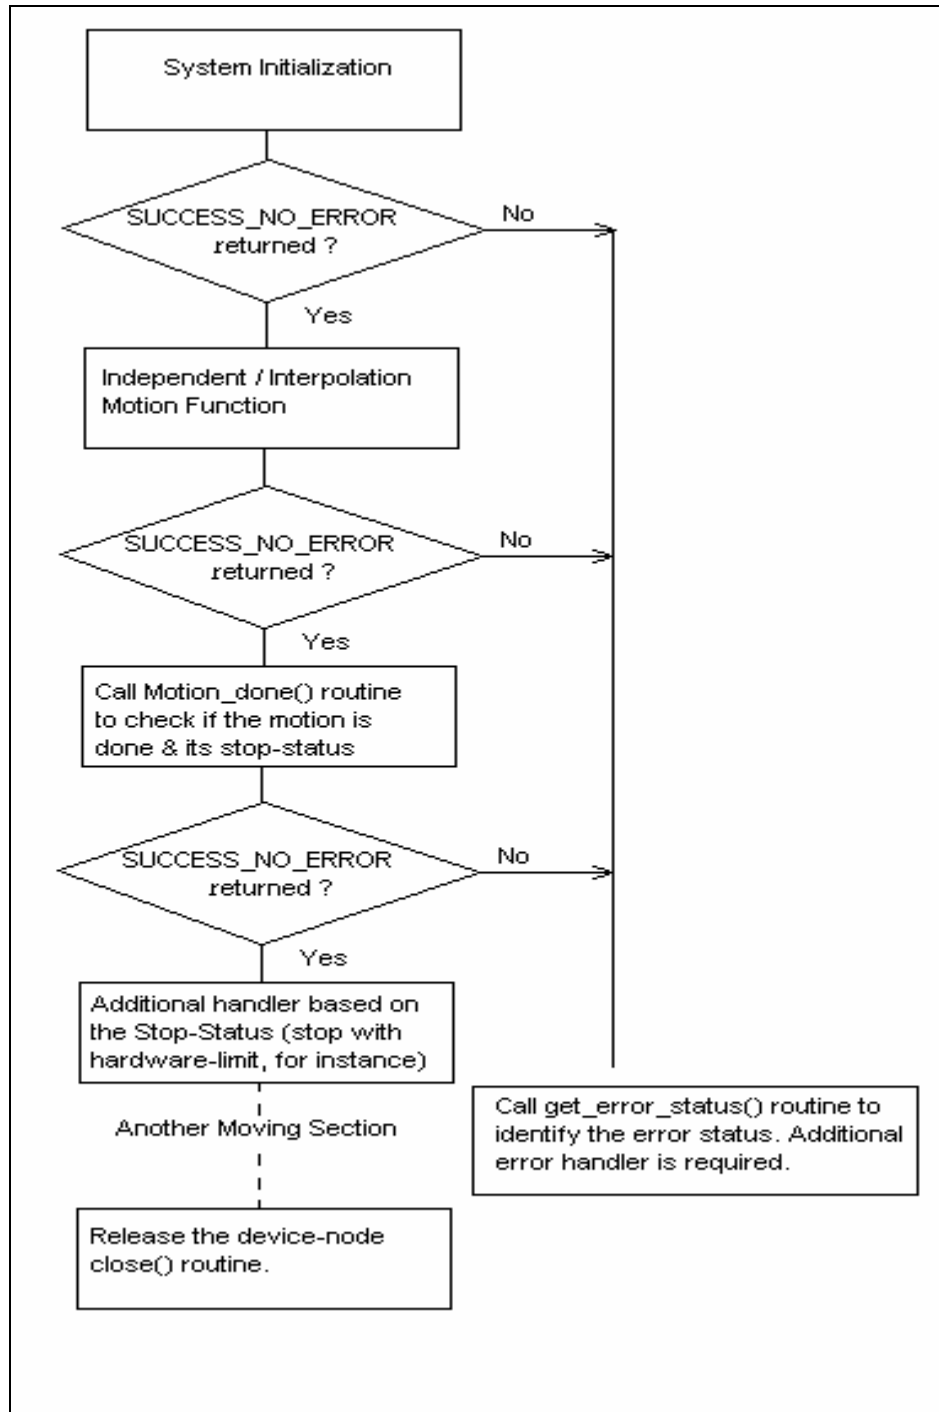

Figure 1 - typical programming follow-chart
- ✧ The routines are re-defined and the simpler programming follow-chart (refer to the figure 1).